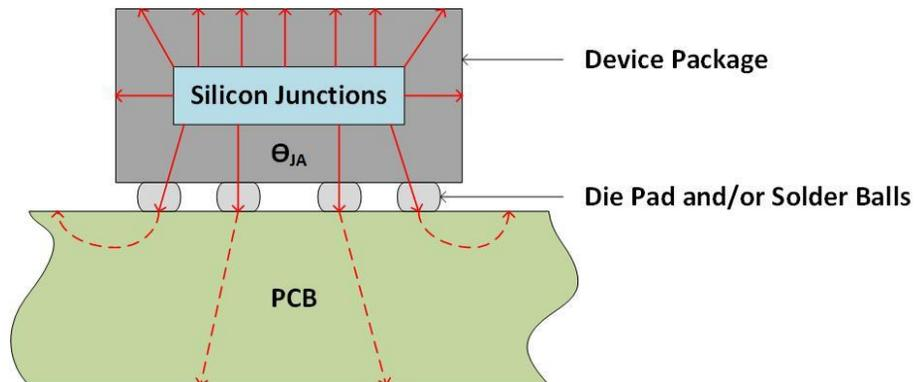
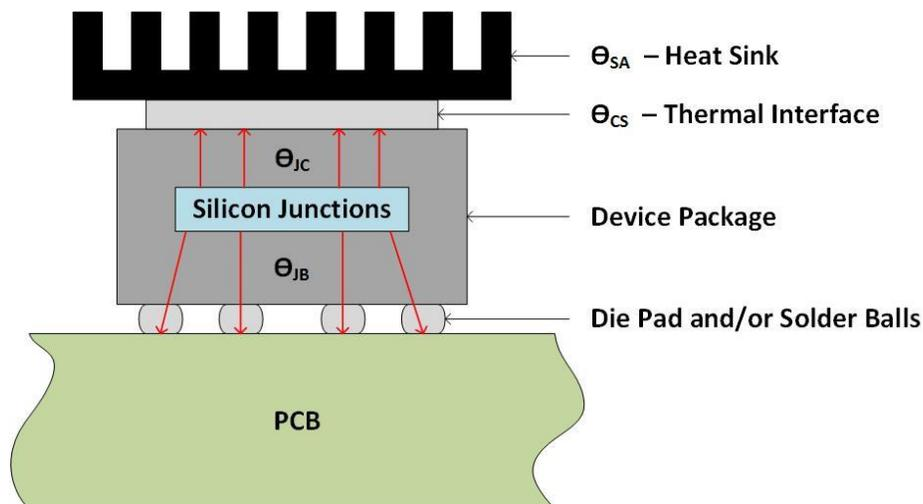

Figure 1.1. Thermal Resistance Path from Silicon Junctions to Ambient Air
Figure 1.2. Thermal Resistance Path from Silicon Junctions to Package Top and to PCB
In addition to the device and package, the thermal characteristics of a circuit depend on the operating temperature, device power consumption, and the ability of the system to dissipate heat. The maximum junction temperature of a device can be calculated using the equation below that corresponds to the type of thermal management utilized in the design. Equation 1.1 is for a simple system that dissipates heat directly from the device to the ambient air, as shown in Figure 1.1. Equation 1.2 is for a system that has a heat sink located on the top of the device, as shown in Figure 1.2. Finally, Equation 1.3 is used for a system that dissipates the device heat into the PCB, as shown in Figure 1.2.
- θ_{CS} = Thermal resistance of thermal interface material between device case and heat sink; typically thermal pad, grease, or glue as shown in Figure 1.2.
- θ_{JA} = Junction-to-Ambient thermal resistance as shown in Figure 1.1 (see the Package Thermal Resistance and Device/Package Thermal Resistance sections).
- θ_{JB} = Junction-to-Board Thermal Resistance as shown in Figure 1.2 (see the Package Thermal Resistance and Device/Package Thermal Resistance sections).
- θ_{JC} = Junction-to-Case thermal resistance as shown in Figure 1.2 (see the Package Thermal Resistance and Device/Package Thermal Resistance sections).
- θ_{JB} (θ_{JB} = Junction-to-Board Thermal Resistance). θ_{JB} value shown is only applicable when the package thermal pad and/or solder balls are soldered directly onto user PCB (see Figure 1.2).